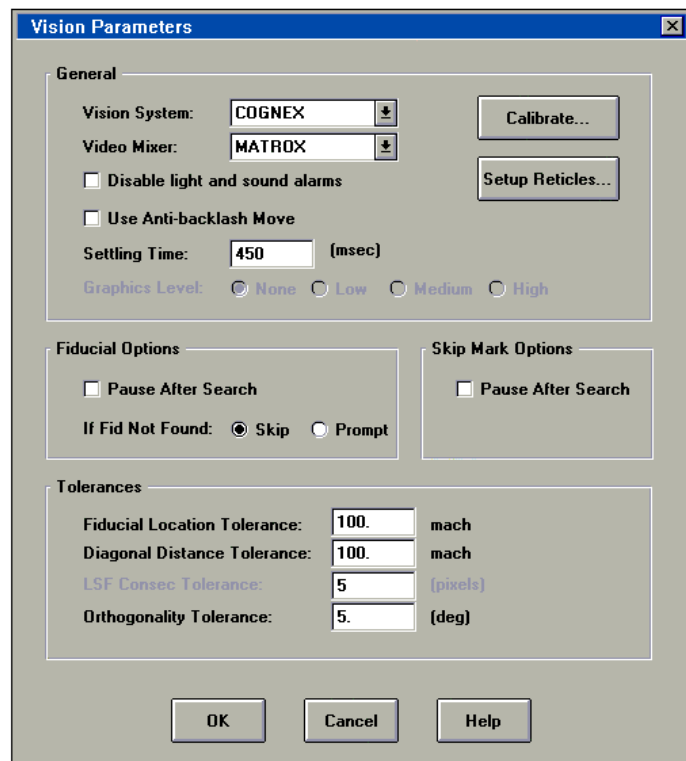

Figure 6-3
- ▶ The Vision Parameters dialog box in Figure 6-3 opens and displays the parameters configured for your system at installation.